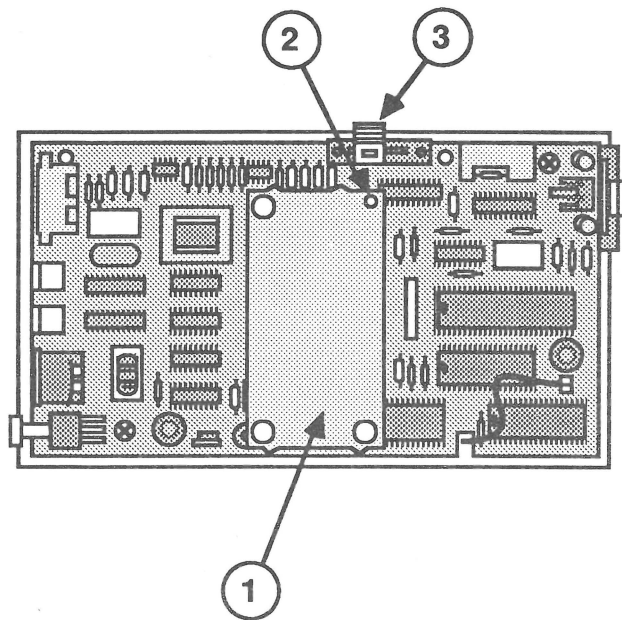

FIGURE 2
2. Locate the auxiliary logic board (Figure 2, #1).
1. Position the auxiliary logic board above the main logic board so that the smallest corner hole (Figure 2, #2) is nearest the volume lever (Figure 2, #3).